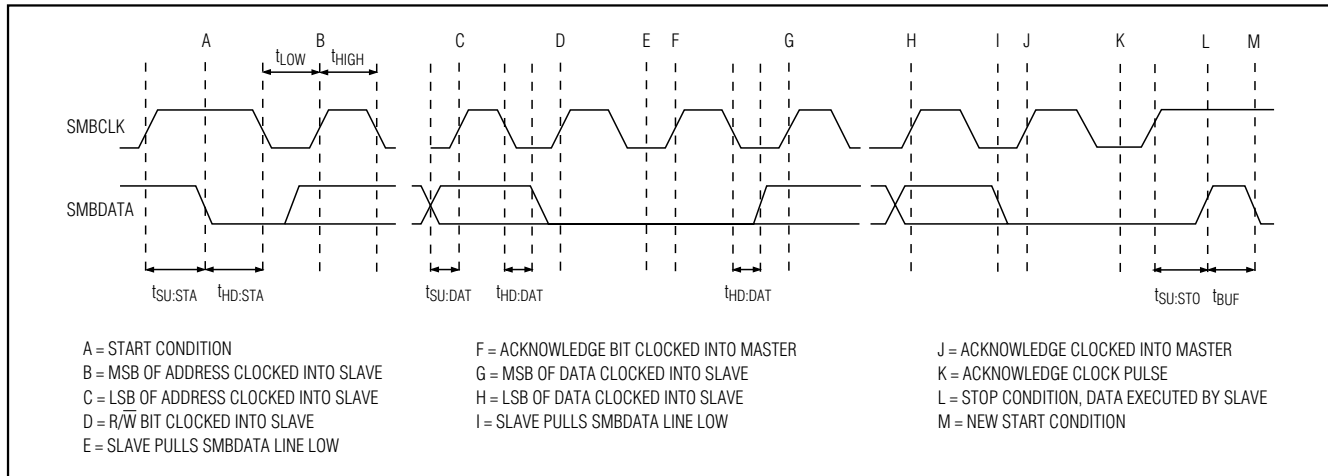

Figure 15. SMBus Write Timing
municating with the slave, the master issues a STOP condition (P), which is low-to-high transition on CRF/SDA, while CTL/SCL is high. The bus is then free for another transmission. Figures 15 and 16 show the timing diagram for signals on the 2-wire interface. The address-byte, command-byte, and data-byte are transmitted between the START and STOP conditions. The CRF/SDA state is allowed to change only while CTL/SCL is low, except for the START and STOP conditions. Data is transmitted in 8-bit words and is sampled on the rising edge of CTL/SCL. Nine clock cycles are required to transfer each byte in or out of the MAX1996A since either the master or the slave acknowledges the receipt of the correct byte during the ninth clock. If the MAX1996A receives its correct slave address followed by $R/\overline{W} = 0$, it expects to receive 1 or 2 bytes of information (depending on the protocol). If